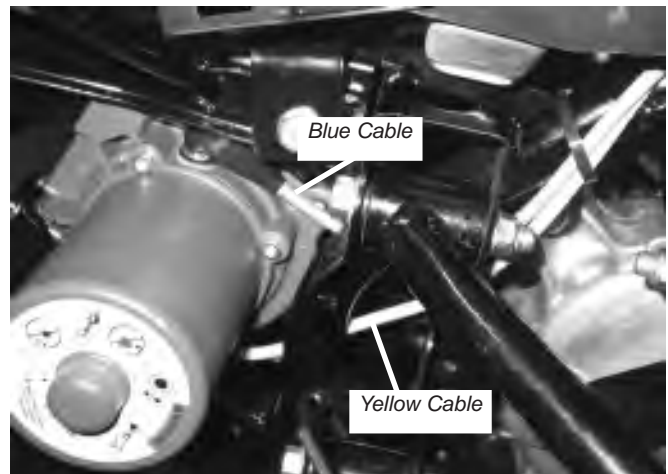
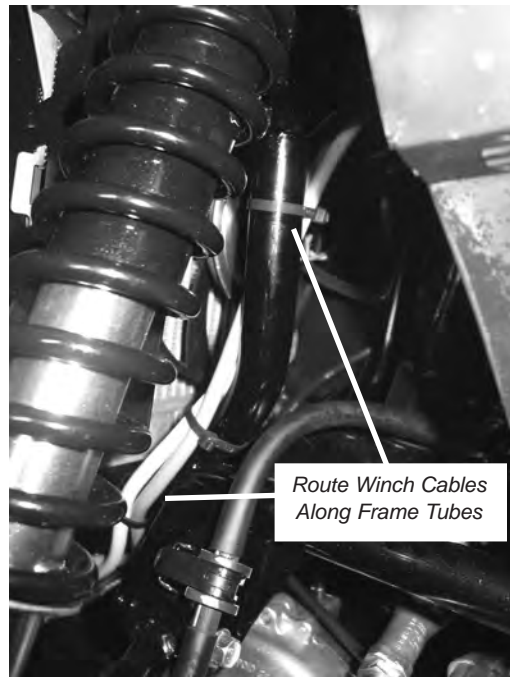

Figure 15 Connect Yellow and Blue Electrical Cables
Figure 32 Winch Cables Routing
16. Place the motor terminal boots on the supplied yellow and blue electrical cables. Connect the yellow and blue cables to the motor terminals on the winch, figure 15. Tighten the motor terminal nuts to the recommended torque of 5.7 N-m (50 lb-in). Slide the motor terminal boots over the motor terminals.
a. Route the yellow and blue electrical cables from the winch up the left side frame tubes of the ATV, figure 15 and figure 32. Secure the cables with supplied plastic tie straps. Avoid all moving and potentially hot components of the ATV when routing the electrical cables.